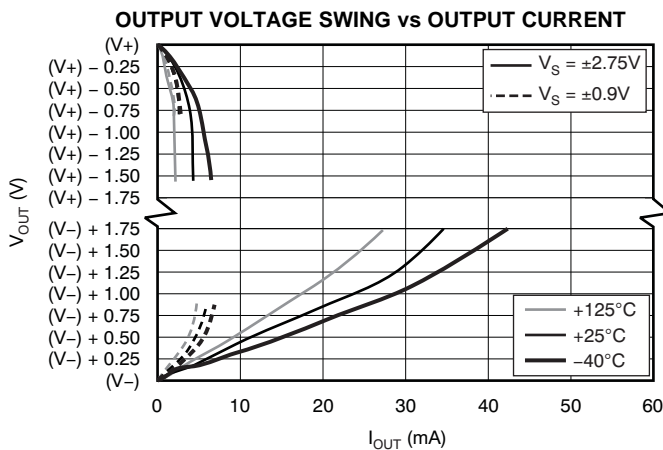

Figure 29.
(4) Does not include effects of external resistor  $R_G$ .
(5) See Typical Characteristics curve, *Output Voltage Swing vs Output Current* (Figure 29).
The INA333 can be used on single power supplies of +1.8V to +5.5V. Figure 35 illustrates a basic single-supply circuit. The output REF terminal is connected to mid-supply. Zero differential input voltage demands an output voltage of mid-supply. Actual output voltage swing is limited to approximately 50mV above ground, when the load is referred to ground as shown. The typical characteristic curve *Output Voltage Swing vs Output Current* (Figure 29) shows how the output voltage swing varies with output current.